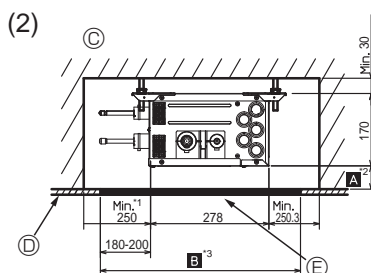
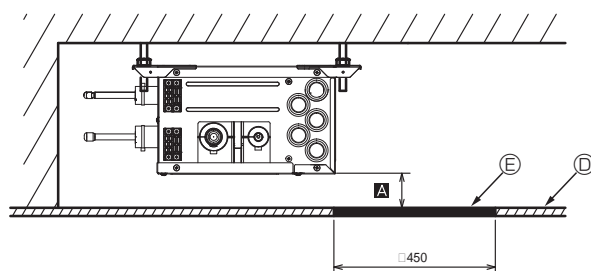
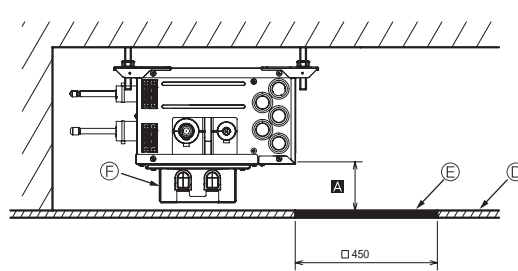

Fig. 2-7
Fig. 2-8
Fig. 2-9
### (2) Side View (Fig. 2-7, Fig. 2-8, Fig. 2-9)
To install the optional reactor box, set Ⓐ to Min. 270 mm <recommendation> (Fig. 2-9)
In the case of "450 mm", prepare a maintenance hole at a PCB side (as it is shown in Fig. 2-8, Fig. 2-9), and "Min. 300 mm" is needed as distance Ⓐ.